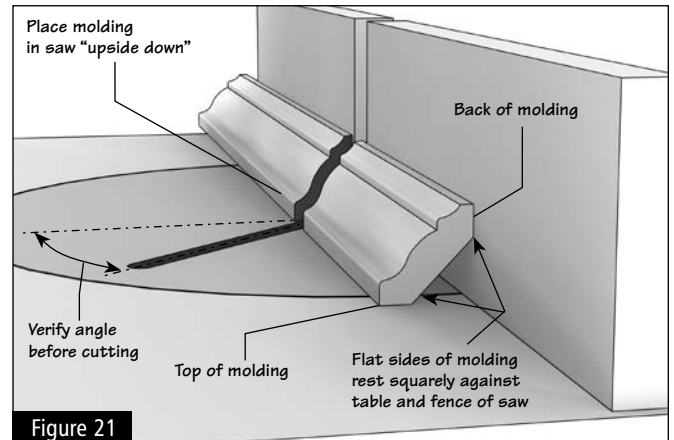

Figure 21
7.4 When trimming molding, keep in mind that the proper position for the molding in the miter box is upside down with the bottom edge resting against the fence. (Figure 21)